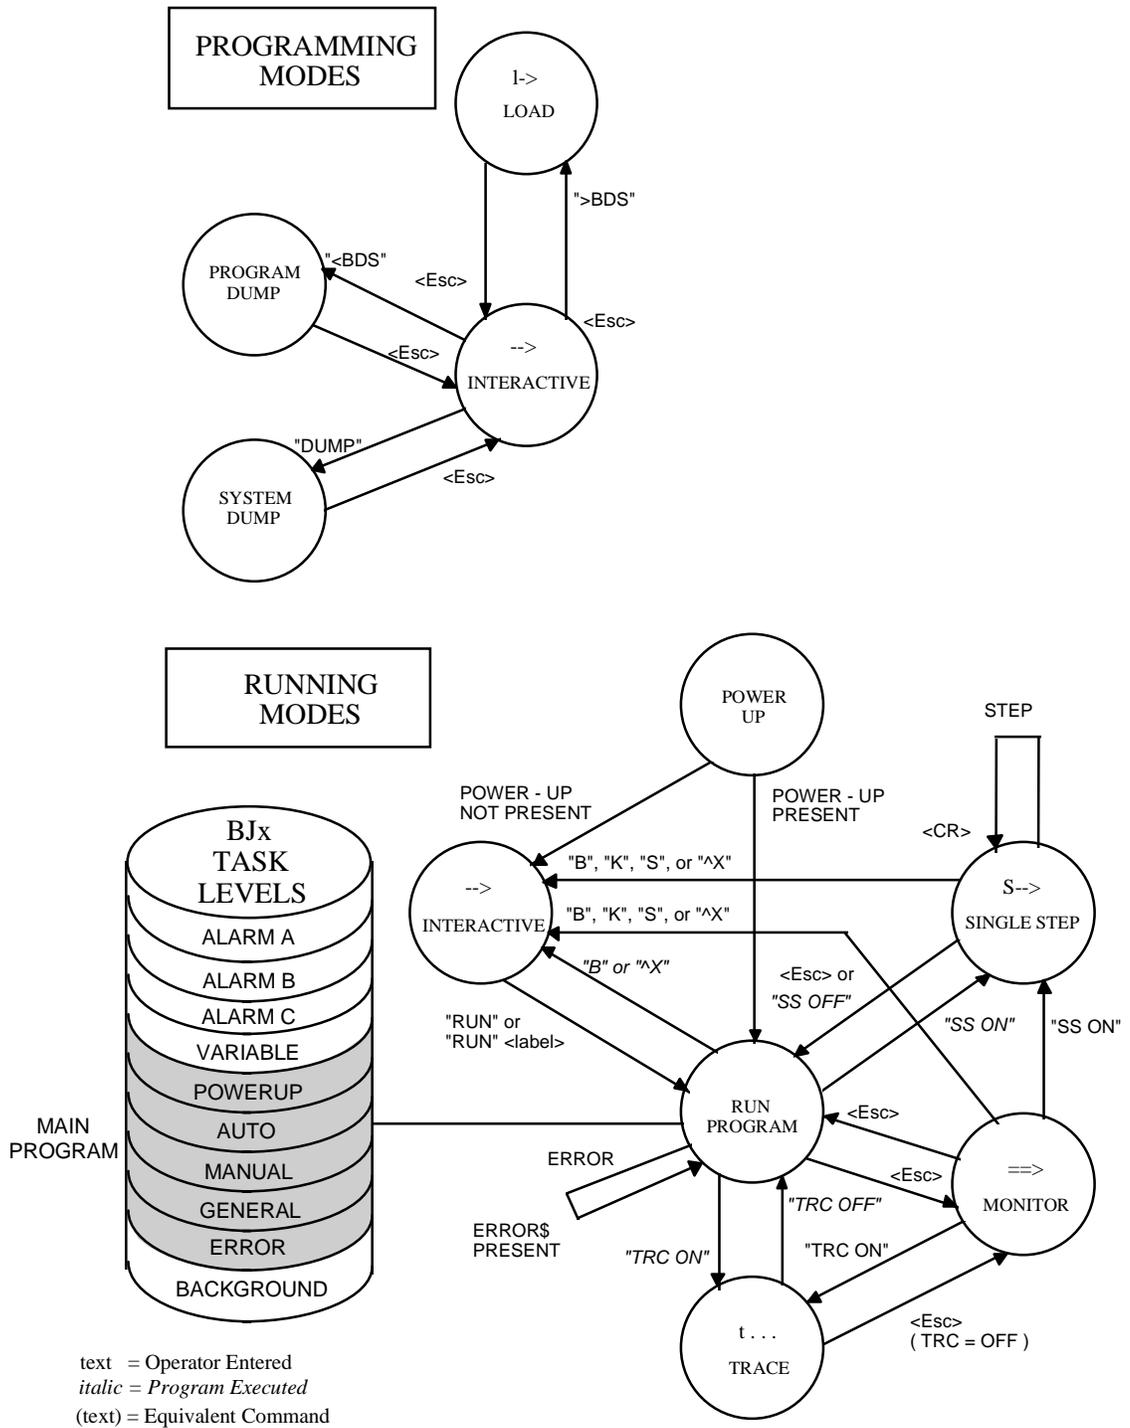

Figure 2.2 BJx State Table
The following section describes each of the modes of operation. Figure 2.2 is a diagram of each mode and how it interacts with the other modes.
Refer to Figure 2.2. There are many ways to enter the Interactive mode. First, if the power-up label (POWER-UP\$) is not present, the BJx will power-up in the Interactive mode. The BREAK (B) command and errors that break program execution cause the BJx to exit the Run mode and enter the Interactive mode.
Refer to Figure 2.2. After autobauding, the Run mode is normally entered from either the Interactive mode, the RUN command, or from multi-tasking. If the power-up label (POWER-UP\$) is present, the BJx will start running your program at that label on power-up.
Other modes shown in Figure 2.2 include the communication modes (Program Load, Program Dump, and System Dump). These modes are covered in later chapters.